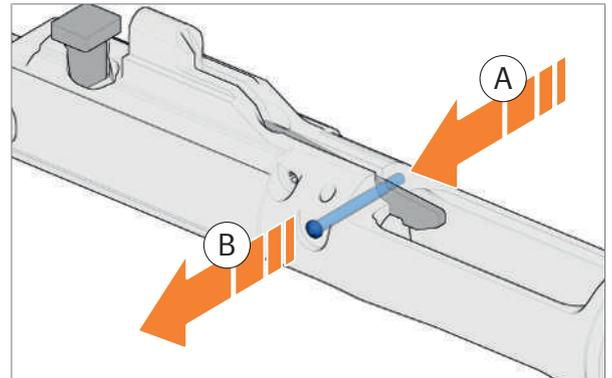

Fig. 99: Pull locking pin out of bolt head carrier
3. Push locking pin from the right completely into the bolt head carrier (Fig. 99).
4. Pull locking pin out of the bolt head carrier to the left as far as it will go (Fig. 99).